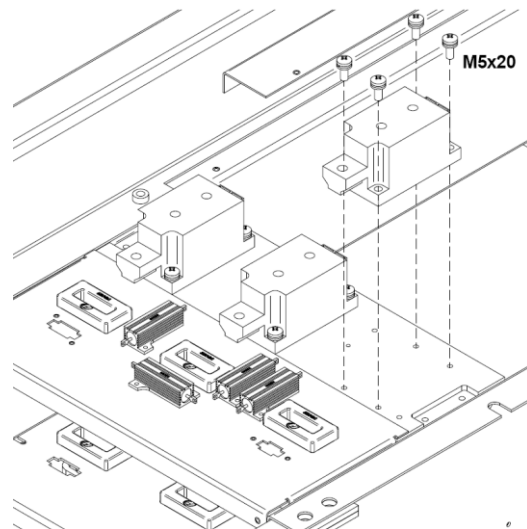

Figure 4.19. Disassembly of the SCR
- 3) Insert the bars (figure 4.19)
Follow figure 4.19 while reading these instructions:
- 2) Insert the SCR in the heat exchanger (see figure 4.19).